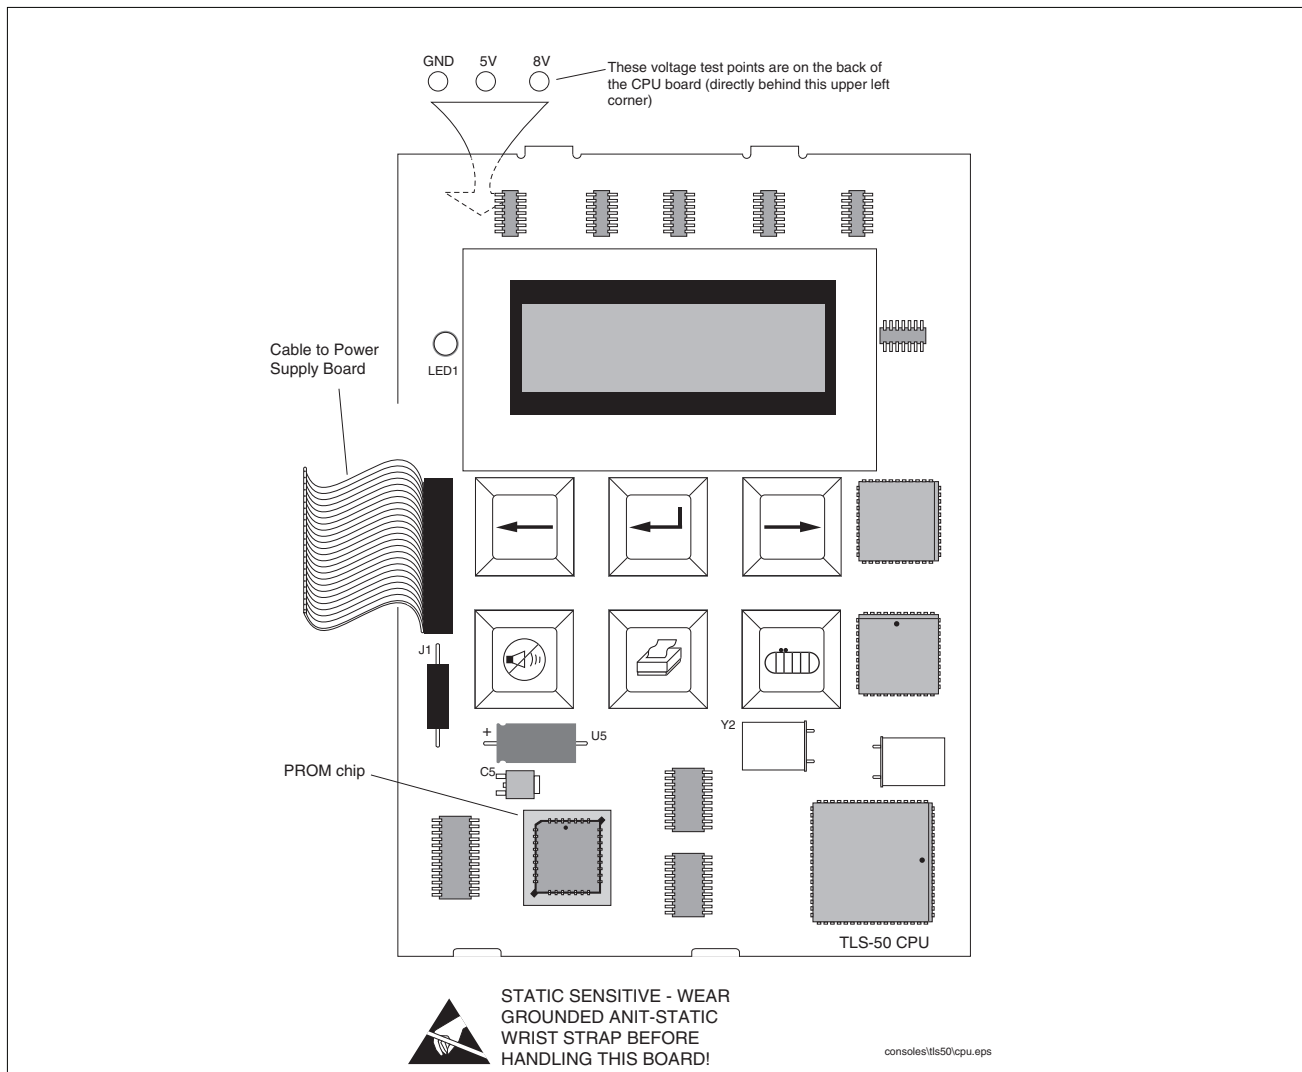

Figure 19. CPU Board Voltage Test Points
- The voltage between the GND and 5V test points [Figure 19] on the back of the CPU board is not within 4.75 - 5.25 Vdc.
5. Locate the PROM chip on the board [Figure 19].
- The voltage between the GND and 8V test points [Figure 19] on the back of the CPU board is less than 7 Vdc.